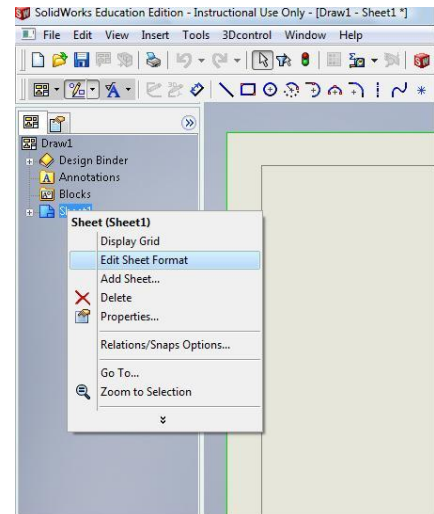

Figure 6
- a. In the feature navigator, **right click** the name of the sheet and left-click **Edit Sheet Format** (shown Figure 6). All borders will become selectable. **Select** and **delete** all annotations and borders. When finished, **right click** the sheet name again and click **Edit Sheet** to exit the sheet editor.